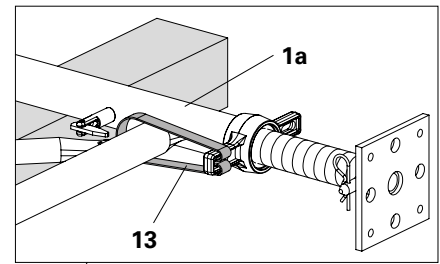

Fig. A2.01a
4. Secure the base spindles **(A)** on the Frame PD 8 R 150 **(1a)** with Safety Strap for PD 8 Table **(13)**. (Fig. A2.01a)